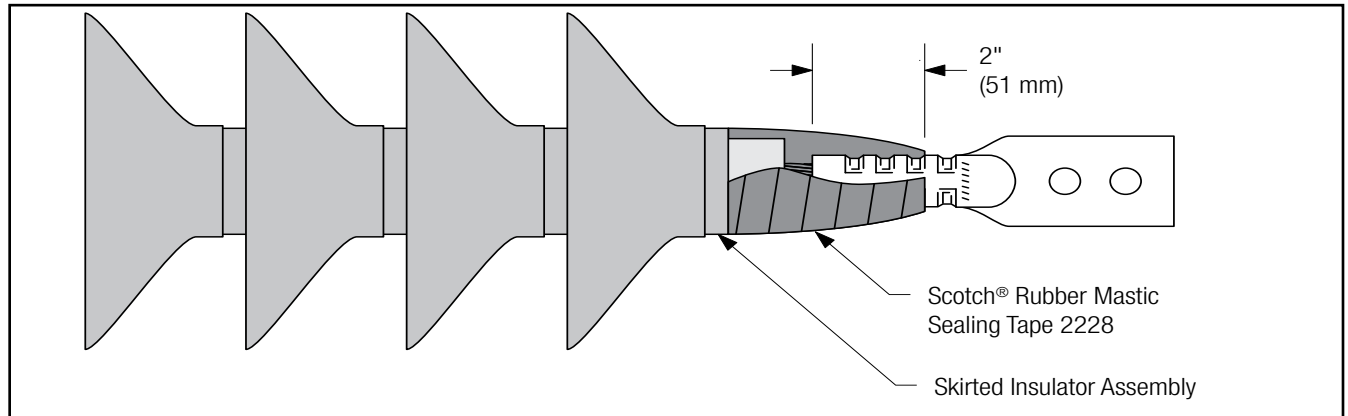

Figure 28
- 7.2 Wrap Scotch® Rubber Mastic Sealing Tape 2228 half-lapped over the lug or connector barrel and the 1/2" (13 mm) insulation/lug gap, building to a diameter equal to the cable insulation and tapered toward the required 2" (50 mm) coverage length onto the lug or connector barrel. Cover 2" (50 mm) of the lug or connector barrel. (*Figure 28*)